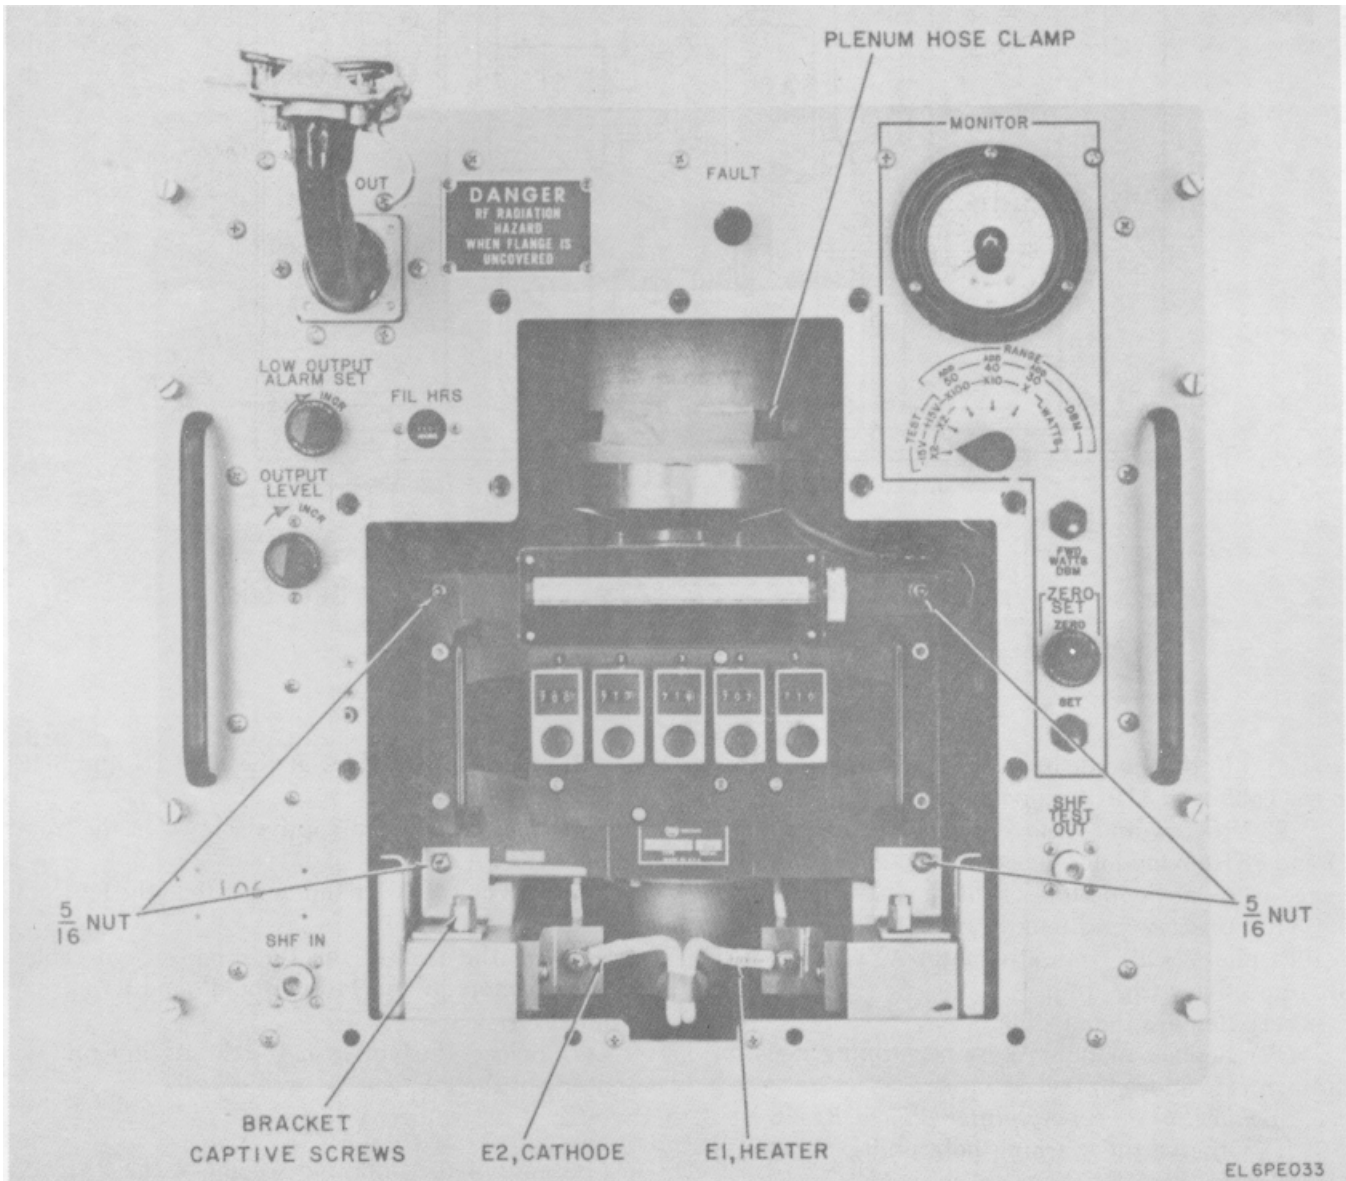

Figure 5-7. Power Amplifier, Front Access Opening, Removal Items.
(20) Close the PA drawer and tighten one captive screw in each corner of the front panel.
(21) Through the front access opening, remove the two screws which secure the heater and cathode wires to E1 and E2, respectively, at the bottom front of the klystron (use non-magnetic tool) (fig. 5-7).
(22) Remove the four 5/16 inch nuts which secure the klystron on the four corner guide posts (use nonmagnetic tool).
(23) At the bottom front of the klystron loosen the two captive screws which secure the two lower angle mounting brackets (use nonmagnetic tool).